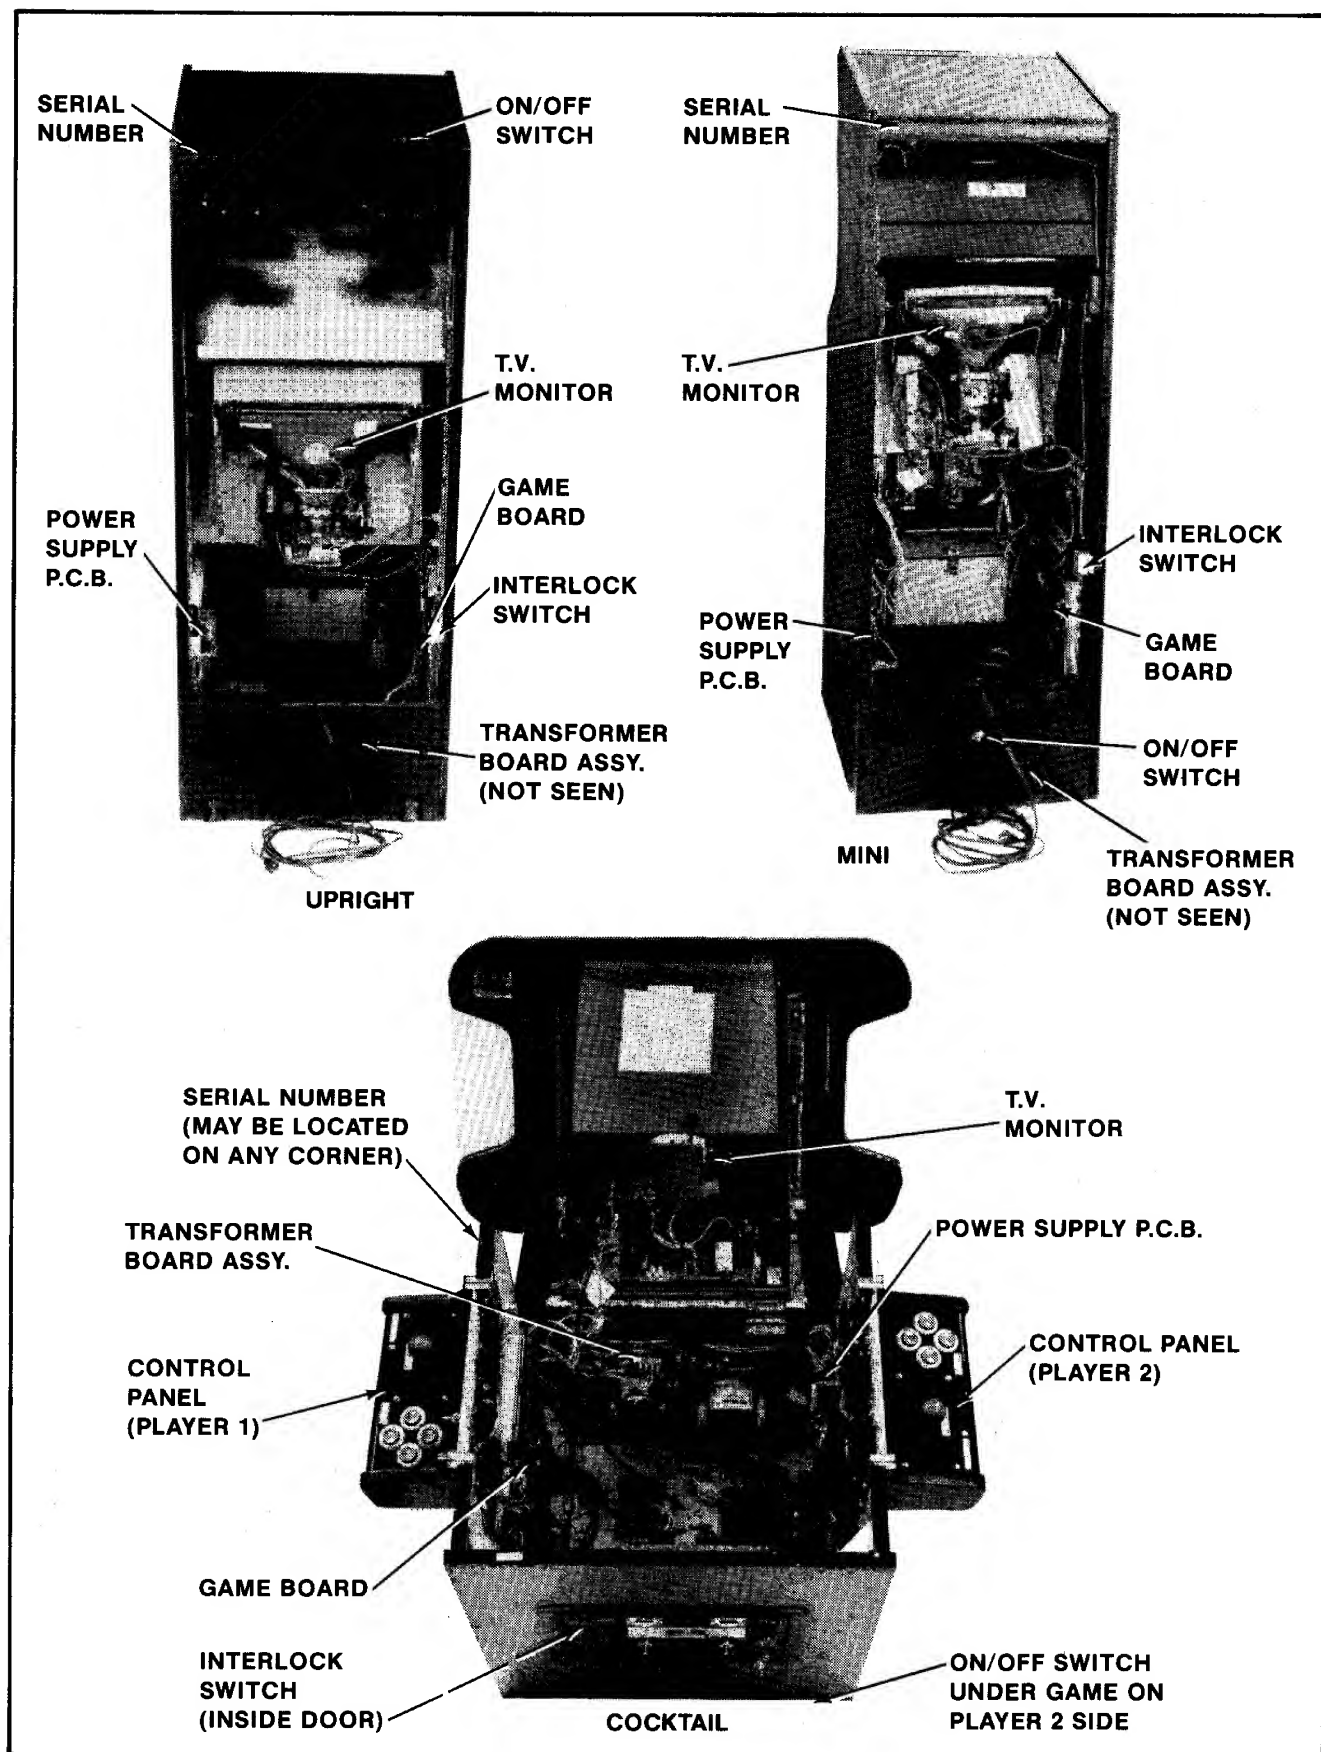

Figure 2-1 Location of Serial No., Interlock Switch, On/Off Switch & Major Sub-Assys.
5. Open the cabinet and inspect the inside of the game for any signs of damage. See Figure 2-1.
- ☐ Make sure all printed circuit boards (P.C.B.'s) are firmly seated in their connectors. See Figure 2-1. These connectors are also keyed. The P.C.B.'s will only go into them one way without being damaged.
- ☐ Note the location of the game's serial number. See Figure 2-1.
- ☐ Check all major subassemblies to be sure they are mounted securely. These are called out in Figures 2-1 & 2-2.
3. Interlock and power ON/OFF switches. See Figure 2-1.
The game ON/OFF switches for all models are located as shown in Figure 2-1. Turn the game on and allow it to warm up a few minutes.